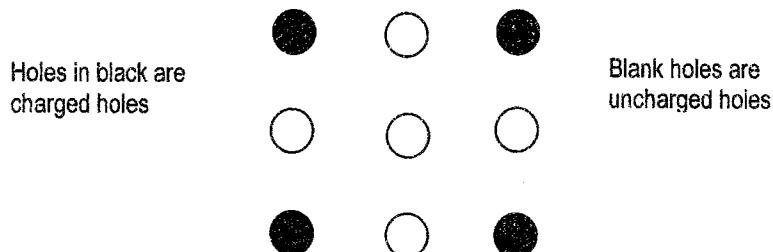

Figure 2
1.31 Figure 2 is the cut configuration in tunneling. What type of cut is it?